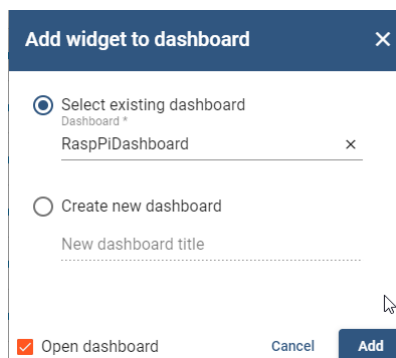

Figure 3.10: Dashboard Settings
- Click **Add to dashboard** and configure your widget settings as shown in Figure 3.10.